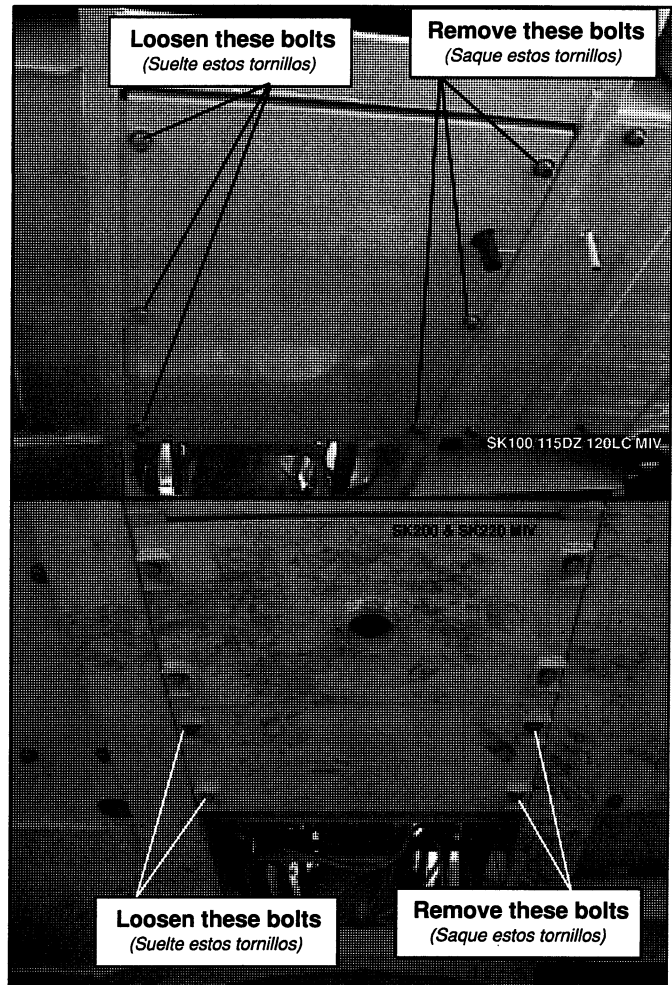

FIG. 4A
- A. Use the 19 mm combination wrench to remove the three bolts located on the right side of the engine bottom cover, see Fig. 4A. (Utilice la llave de combinación de 19 mm para remover los tres tornillos del lado derecho de la tapa inferior del motor, ver Fig. 4A).
- B. Using the same wrench, loosen the three bolts located on the left side of the cover, see Fig. 4A.